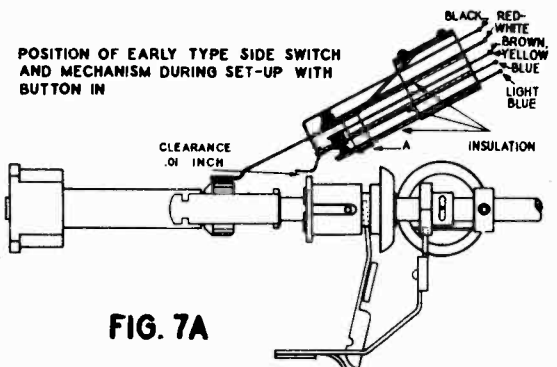

FIG. 7A
**19** If the Visual Tuning Indicator Light flickers or goes out during set-up, when a button is pressed, the following may be the cause. The bakelite ring on the Friction Roller Assembly is probably lifting the Short Side Switch Operating Arm, causing it to open the Visual Tuning Indicator circuit. There should be a very slight clearance, about .01 of an inch, between the bakelite ring and the Operating Arm during set-up, with a button in, as shown in figure 7A. Either the end of the Long Switch Operating Arm should be bent down, so it will press harder against the Set-up gear, or the lifting hook (A, figure 7A) should be bent up slightly.